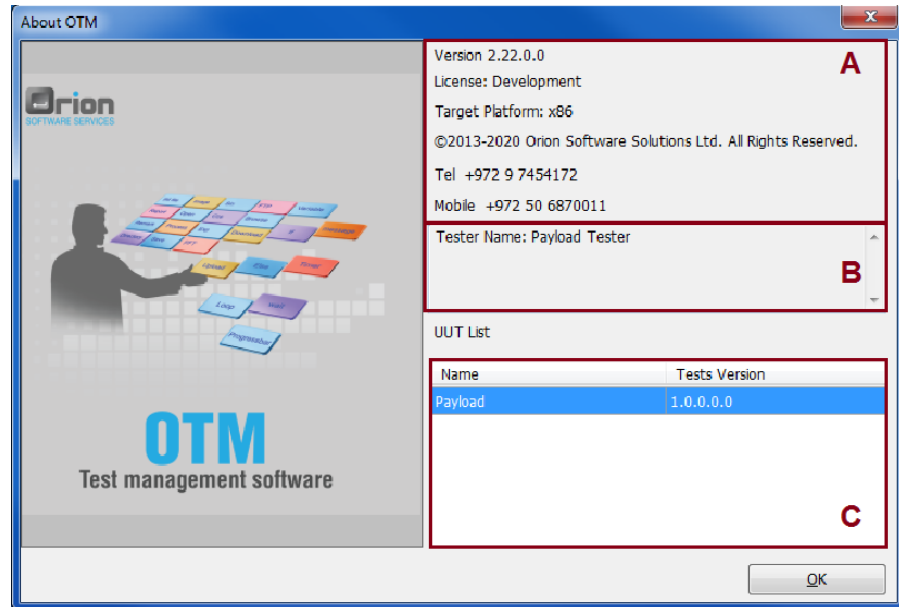

Fig 4-24 **About OTM** window
1. Navigate to the **Main** window > **Help** > **About OTM** to open the **About OTM** window Fig 4-24.
Fig 4-24